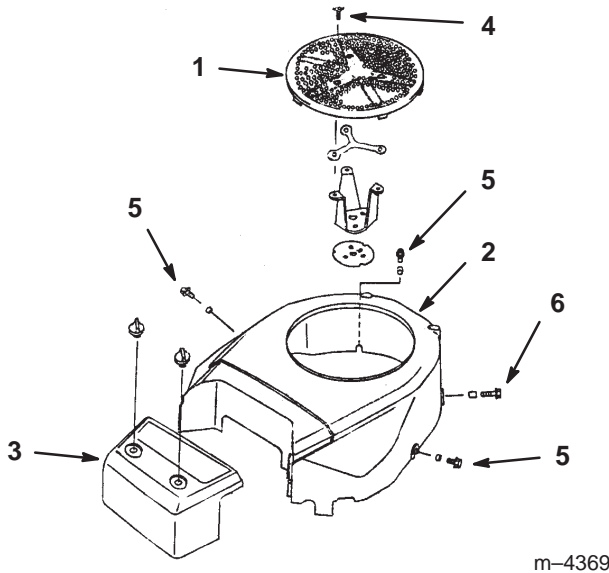

Figure 33
2. Remove air-intake screen, air cleaner cover, fan housing and bolts (Fig. 33).
4. Reinstall air-intake screen, air cleaner cover, fan housing and bolts. Install bolts to 4.3 ft-lb (5.9 N-m) torque (Fig. 33).